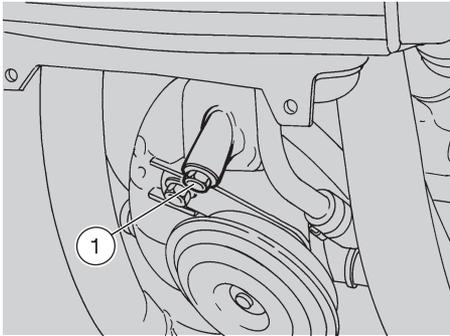

Fig. 27
- ◆ Remove the plug positioned on the front beam of the frame (1-Fig. 27).
- ◆ Check the sealing washer of the front frame beam plug (1-Fig. 27) and retighten it.